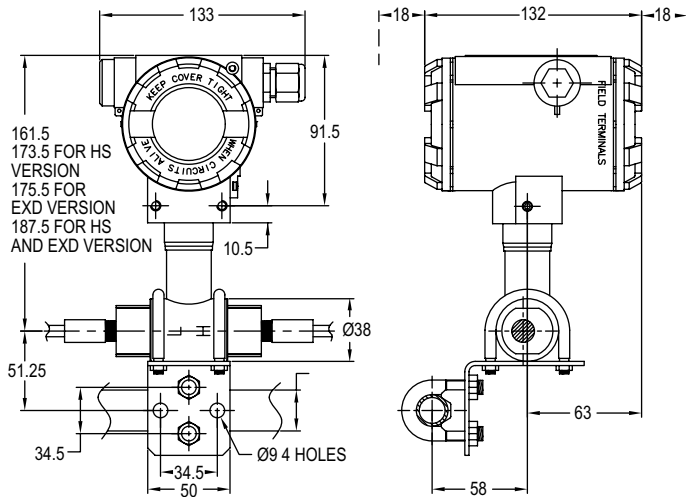

Figure 7: Example - How to install the Series 3500 transmitters with remote diaphragm seals
8.2.1. The Series 3500 transmitters can be installed using the Ø25 Fastener (Figure 7) on an Ø25 pipe or on a flat surface using an angle bracket